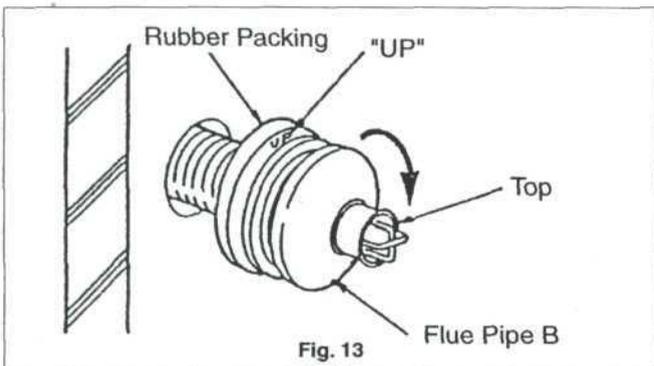

Fig. 13
3. It is important to keep the "UP" mark on the rubber packing at the top while screwing in Flue pipe B. Hold the packing in place while screwing in Flue pipe B until it is tight. (Figure 13)
3. It is important to keep the "UP" mark on the Rubber Packing at the top while screwing in the Flue Pipe B. Hold the Rubber packing in place while screwing in the Flue Pipe B until it is tight. (Figure 13)